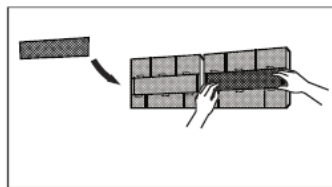

fig. 16 -
4. Remove the air purifier filter on the back of the main filter ("fig. 16 -") and clean it with a vacuum cleaner